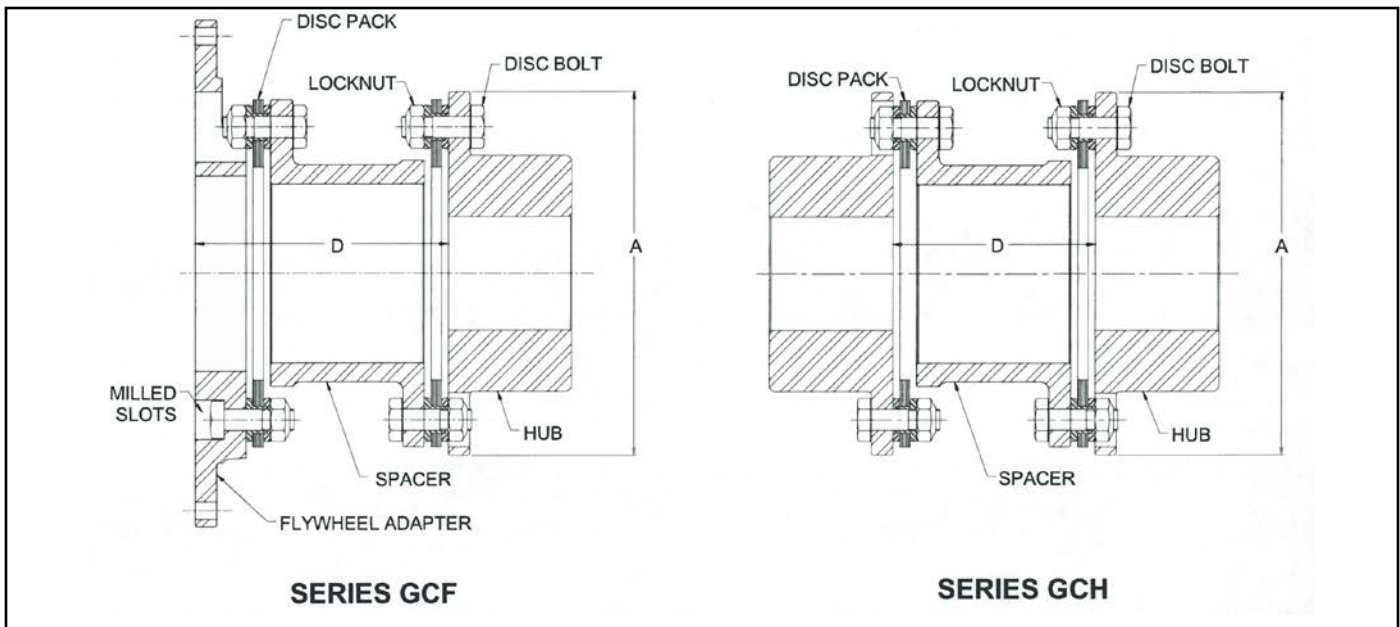

FIG.1: COUPLING NOMENCLATURE
11. Install a disc pack on adapter or first hub. Review figure 1 to confirm proper bolt orientation. For couplings with two hubs, install the four disc bolts which connect the pack to the first hub. Coat all bolt threads and nut faces with anti-seize thread compound.
12. Bring spacer into position and install the other four bolts and nuts at the first end, oriented as shown in Figure 1. Continue to support spacer to prevent damage to the disc pack.
13. Install second disc pack and all remaining bolts and nuts as shown in Figure 1. Read the following sections before tightening bolts.